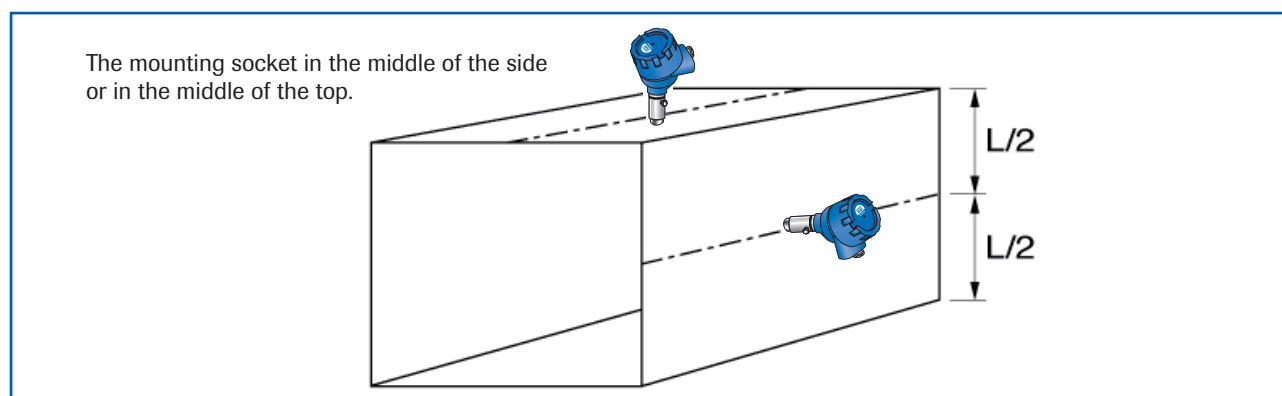

Fig. 2b: Square cross-section duct
3. For square cross-section ducts, the unit must be positioned in the middle of the top or in the middle of one of the sides. (See figure 2b)